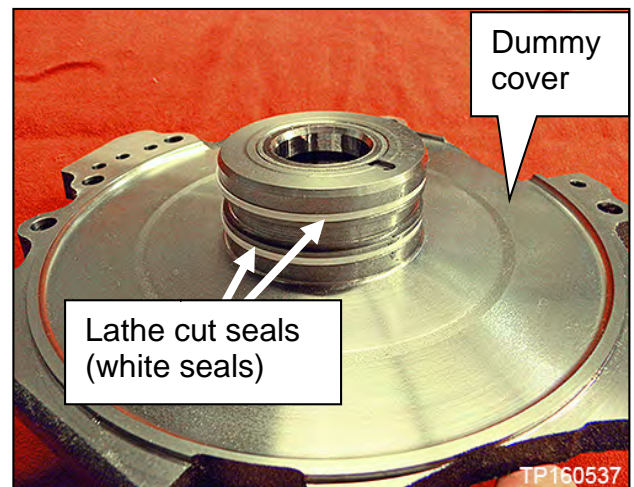

Figure 49
- Do NOT remove the lathe cut seals (white seals in Figure 49) from the dummy cover. These seals will be reused.